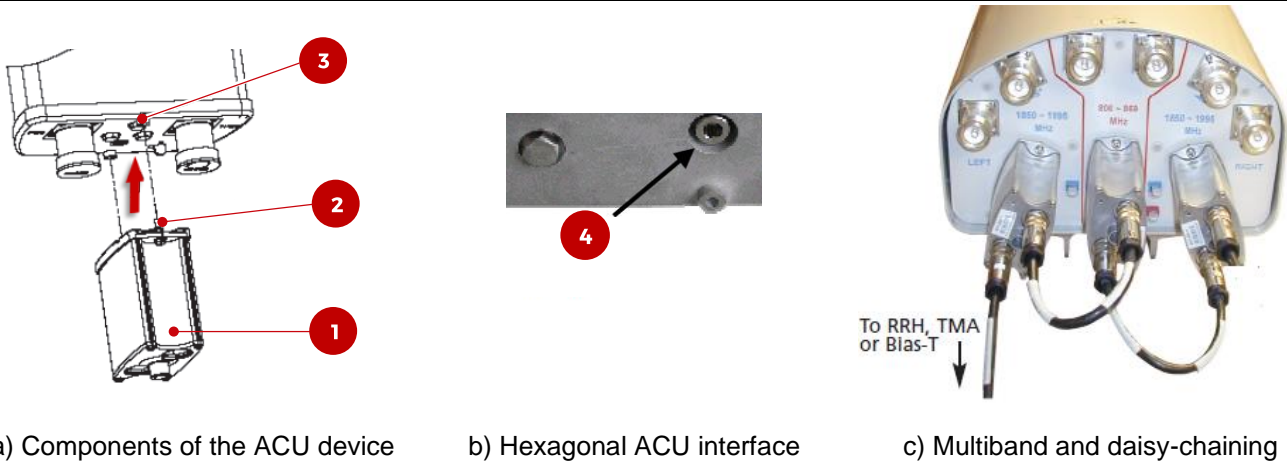

Figure 2: Steps for replacing an ACU-A20 device
- Untighten the (2) M4 screws [2] the ACU-A20 [1] by using a cruciform wrench (Figure 2 – a),
- Once the defective ACU has been removed, check if the hexagonal mechanism [4] (Figure 2 – b) is not locked, by using a 5 mm Allen wrench,
- Mount the new ACU to the antenna as depicted in Figure 2 – a,
- Tighten the (2) M4 screws progressively and alternatively,